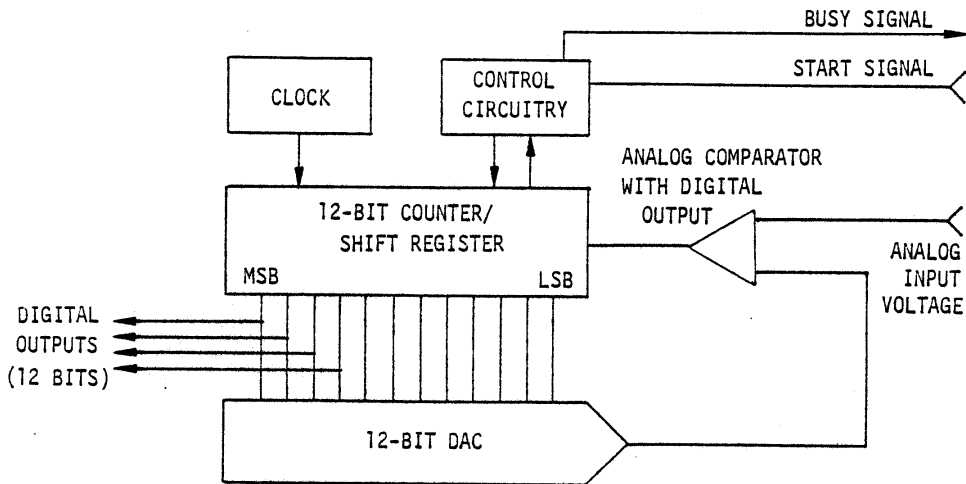

Figure 3-1. A/D Module Internal Block Diagram
The A/D module (see Figure 3-1, A/D Module Internal Block Diagram) is operated as a successive approximation register with the following internal sections: clock, binary counter/shift register (CSR), digital to analog converter (DAC) and comparator circuit. On the leading edge of a positive going START conversion pulse pin 34 (zone C5), the BUSY signal pin 33 is latched and the most significant bit (MSB) pin 72 (zone C4) of the (CSR) is set up to be tested first. The MSB is set True, resulting in a corresponding (DAC) output. The DAC provides an analog output voltage which is dependent on the binary code input. This analog voltage output is compared to the input signal within the comparator and a digital True (1) or False (0) signal is clocked into the proper bit location in the (CSR) register. The process is then repeated, using the next most significant bit. This results in a string of True or False binary weighted bits which are shifted into the register until the least significant bit (LSB) has been "tested" and the comparator toggles True. Completion of the (LSB) test indicates "equality" of the digitally encoded DAC output and input signals. Once the LSB has been "tested," the BUSY signal goes LOW and the digitally coded voltage may be read as valid. Note that during "conversion" time, the data output lines will be toggling back and forth between HIGH and LOW states and will not be stable until after the LSB has been tested and the BUSY signal goes LOW.